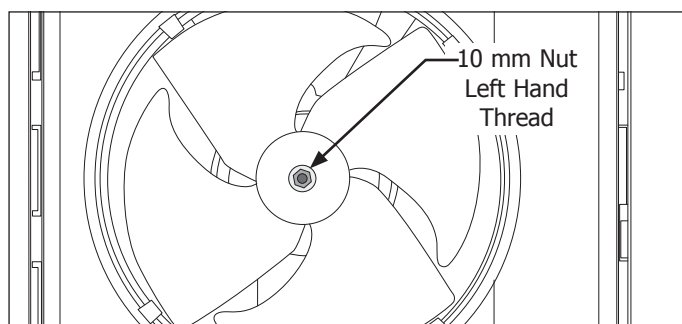

Figure 4-46.
5. Use a 10 mm extended socket to remove the left hand thread nut securing the condenser fan blade to the fan motor shaft. (See Figure 4-46)